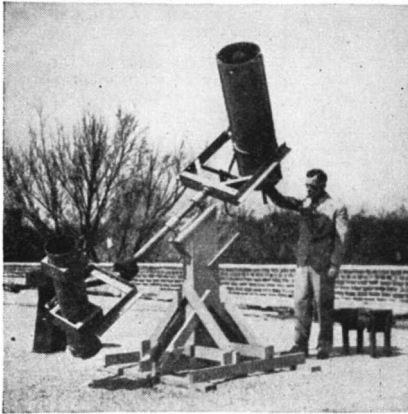

Figure 1: Simpson's double-ender
**C**HIEF feature of the instrument shown in Figure 1 is the combination on one axis of an 8"  $f/4.5$  Newtonian RFT, the lower telescope, for star fields, and a 12½" Cassegrainian, the upper one, for lunar and planetary observation; that is, one telescope for broad, general views and the other for restricted, particular views. Incidentally, this arrangement on one axis brings both eyepieces to about the right height for comfort. The maker is J. F. Simpson, a medical and X-ray technician, Garrison General Hospital, Gastonia, N.C. He states that, in place of the two forks, he believes a perhaps better mounting would be a long, heavy double yoke, with the two tubes mounted in tandem within this same simple yoke. He also plans to substitute a 12½"  $f/5$  RFT for the present 8" RFT, and to add a motor drive, so that objects will not move out of the field when the user steps away to permit a visitor to look—one of the annoyances of showing the stars to the totally inexperienced.